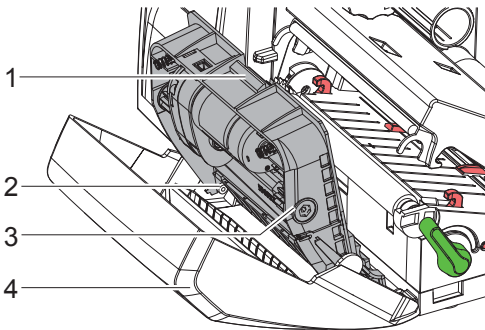

Fig. 20 Dismount Cutter
- ▶ Turn shaft (6) clockwise using a torx wrench TX10 until the gear racks (7) cannot engage anymore.
- ▶ Pull upper blade (9) out of the guides (8).
- ▶ Take out lower blade (10).
- ▶ Push lower blade down into the guides (11).
- ▶ If necessary, put springs (12) back into spring retainers (13).
- ▶ To re-mount the upper blade push lower blade down on the cover and push upper blade into the guide until the gear racks (7) can engage with the gear wheels (5).
- ▶ Turn shaft (6) counterclockwise using a torx wrench TX10 until the blade reaches the upper limit.
2. Fit blade unit (3) according to Fig. 20 into the axes (2) and fold it towards the cover (4) until it snaps in.